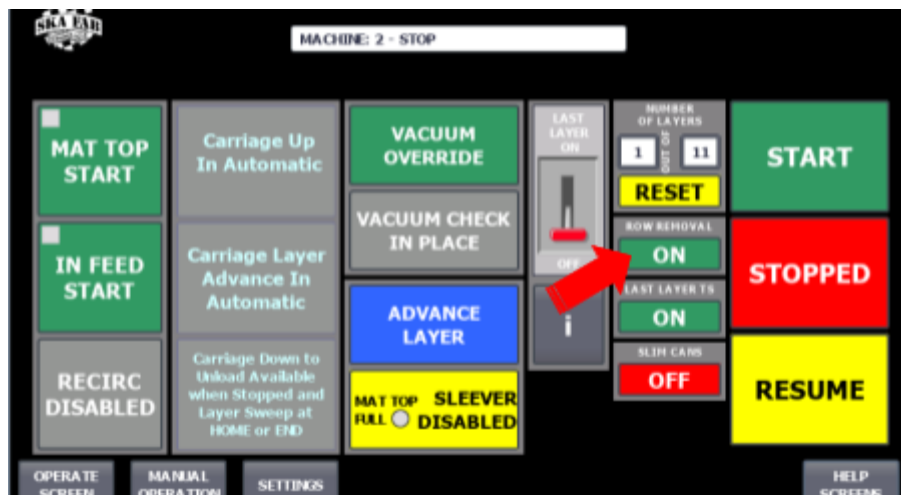

Fig. 18: HMI Screen – ROW REMOVAL Button
1. During the layer sweep process, the Row Sweep will remove the odd row for the accumulated cans if ODD ROW REMOVAL is turned on. The status of the Odd Row Removal sequence is set by the ROW REMOVAL button on the Operate Screen, as shown in Fig. 18.